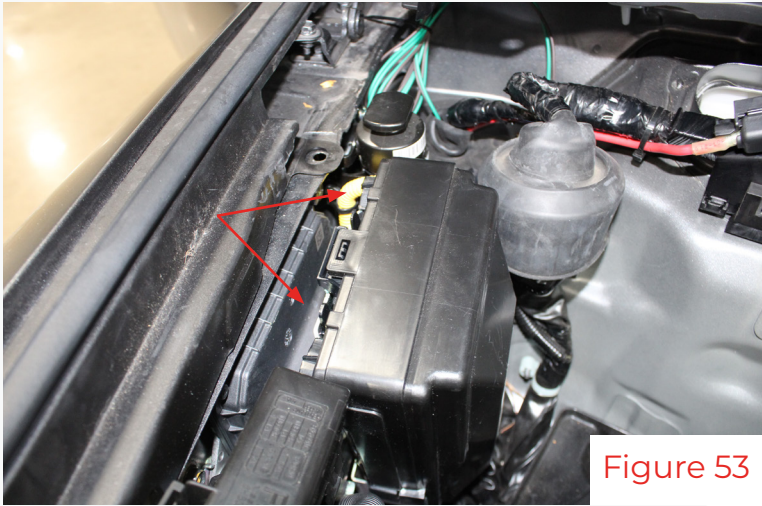

Figure 53
26. Release the two tabs on top and slide the IPDM up.(fig 53 & 54)